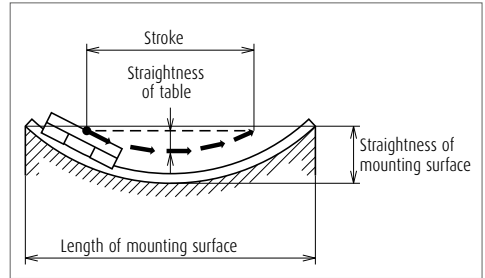

Fig. 4
(1) Accuracy of the mounting base of machine
- However, when two or more slides are assembled to each rail, the table stroke becomes shorter than the mounting surface. This, along with the fact that the mounting error is evenly spread, contributes to a higher table accuracy than the mounting surface accuracy, reducing the error to about 1/3 in average (Fig. 4).
(2) Installation error